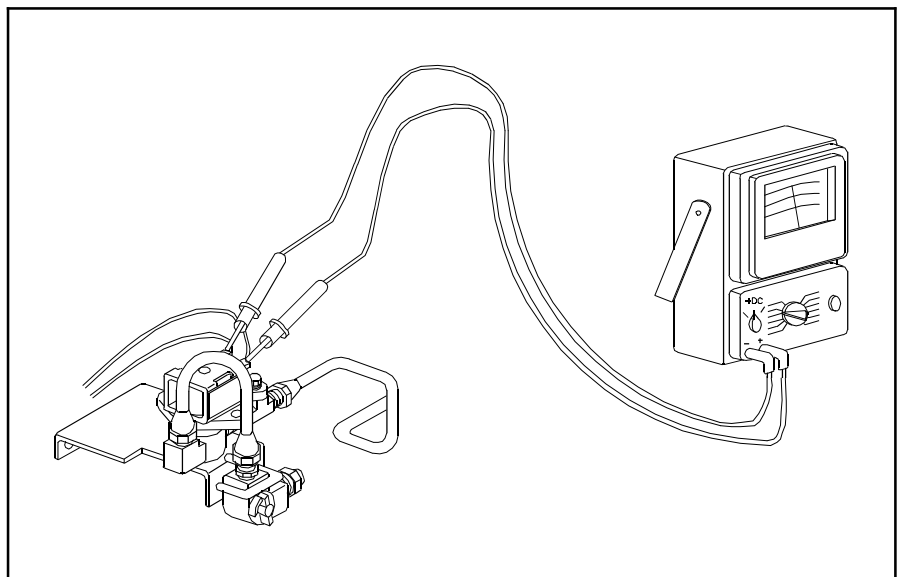

Figure 11.46 12 Volt Check at Gas Solenoid
23. Check for 12 volts DC at the gas valve terminals as shown by Figure 11.46.